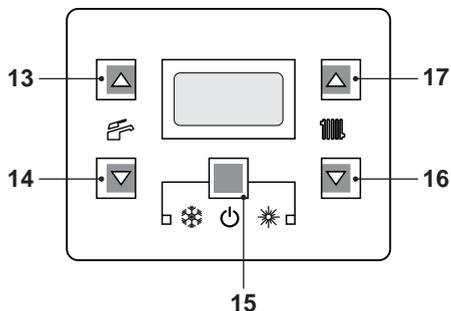
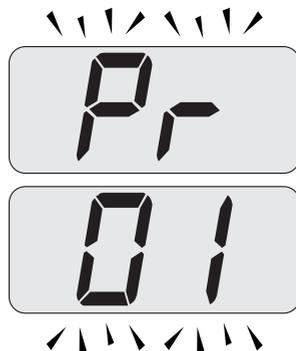
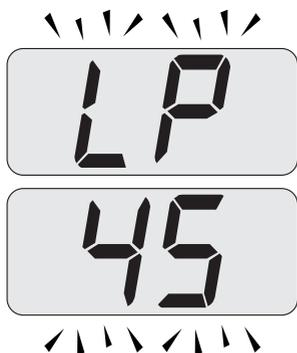
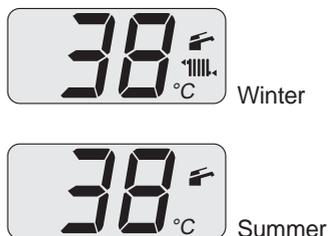

Fig. 9.11
Fig. 9.12
Fig. 9.13
Fig. 9.16
- Enter in "programming mode" by pressing keys 15 - 16 - 17 (Fig. 9.11) for 10 seconds at the same time until the letters **Pr** that alternate with code **01** are displayed on the LCD display, indicating that "parameter 01"(Fig. 9.12) has been activated.
- Press keys 16 and 17 (Fig. 9.11) at the same time until the LCD display displays the letters **LP** that alternate with the heating water temperature value (e.g. **45**), indicating the activation of the "chimney sweep function" at minimum output (Fig. 9.13).
- Press keys 15 - 16 - 17 (Fig. 9.11) at the same time again to exit the "chimney sweep mode" and return to the previously set boiler status (Fig. 9.16).